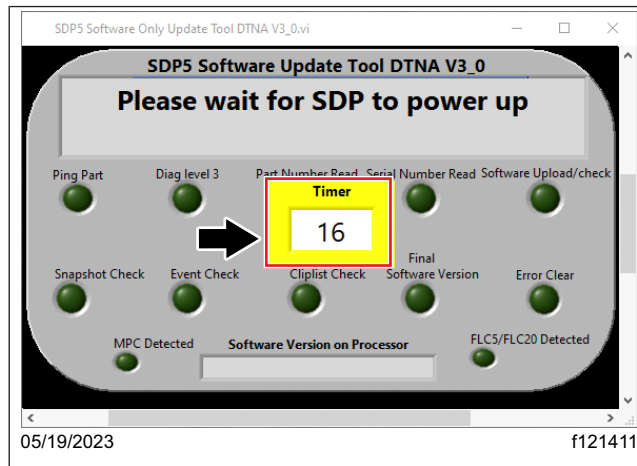
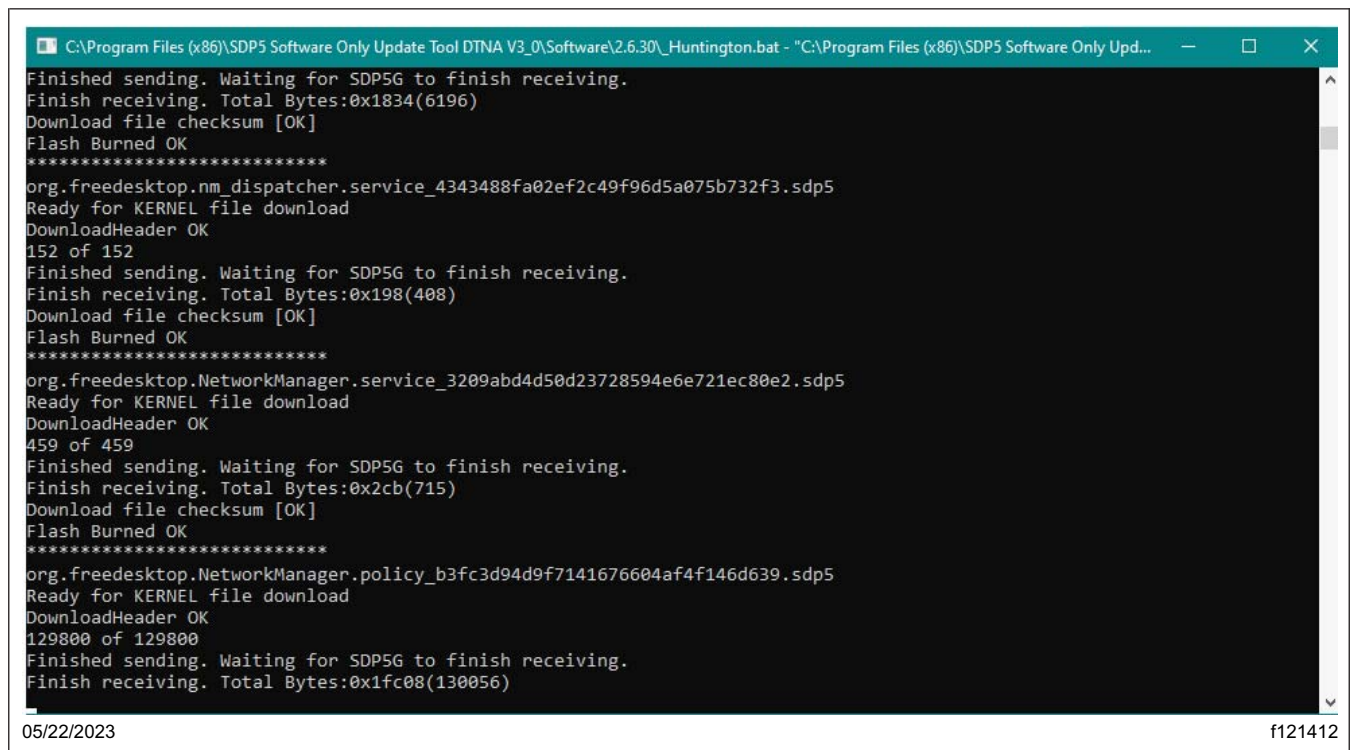

Fig. 23, Time Left for the Connection to Establish
Fig. 24, SDP5 Software Only Update Tool Status Window
11. A timer is displayed on the screen while communication with SDP5 is being established. See Fig. 23.
NOTE: The software update process is automatic, and requires no user interaction. If for any reason the timer shown in Fig. 23 expires and the window shown in Fig. 24 does not open, usually within five minutes, try using a different computer to perform the campaign.
12. The SDP5 Software Only Update Tool status window opens to show the progress, and automatically closes when the update is complete. See Fig. 24.